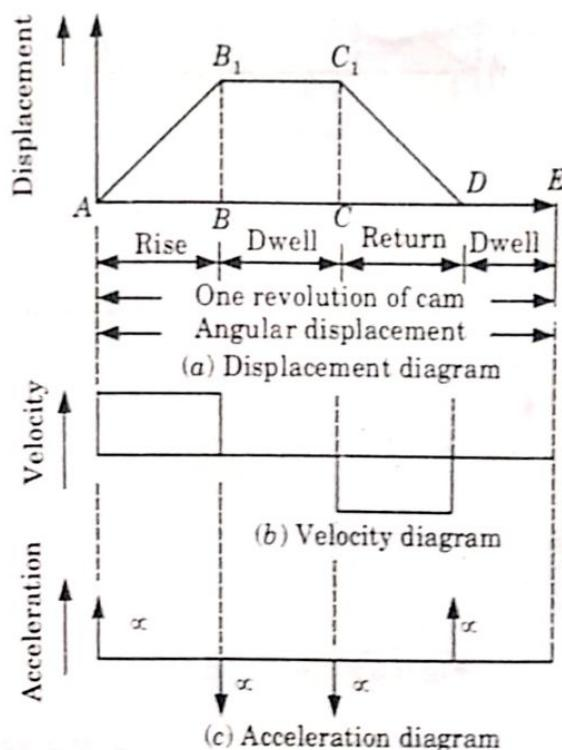

Fig. 2.5.1.
3. The periods during which the follower remains at rest are known as dwell periods, as shown by lines B_1C_1 and DE in Fig. 2.5.1(a).
4. From Fig. 2.5.1(c), we see that the acceleration or retardation of the follower at the beginning and at the end of each stroke is infinite. This is due to the fact that the follower is required to start from rest and has to gain a velocity within no time.